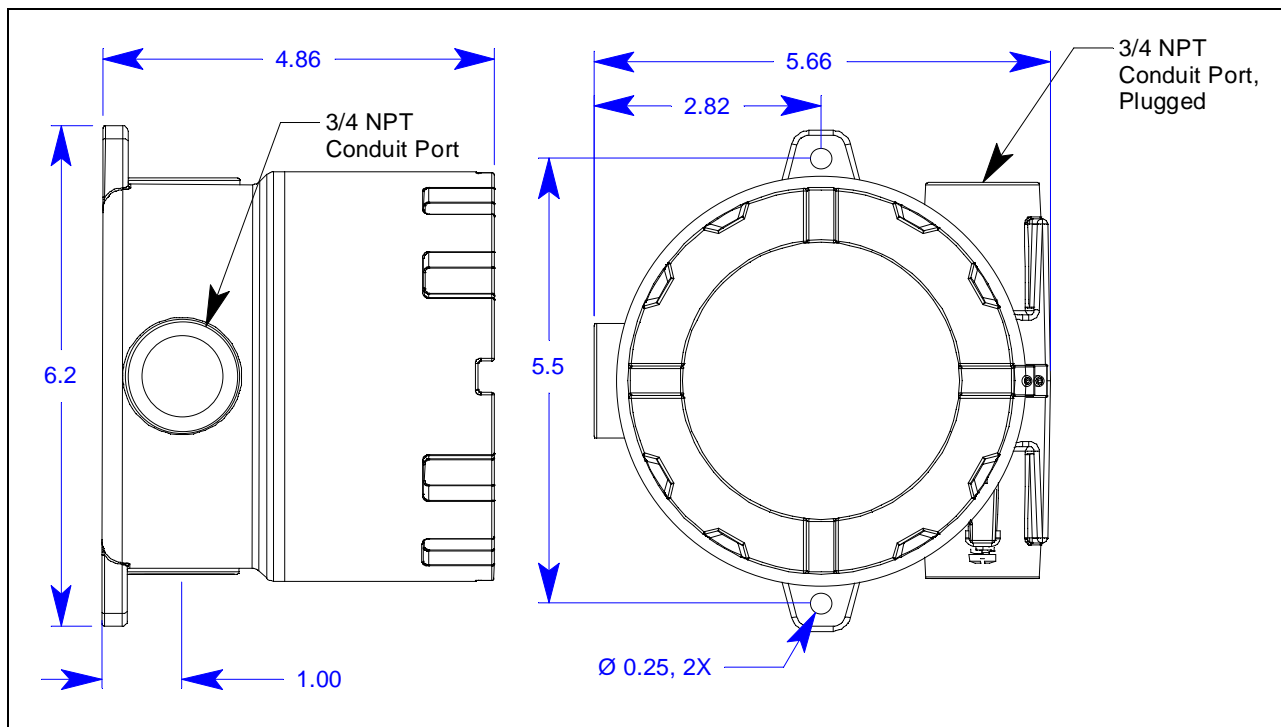
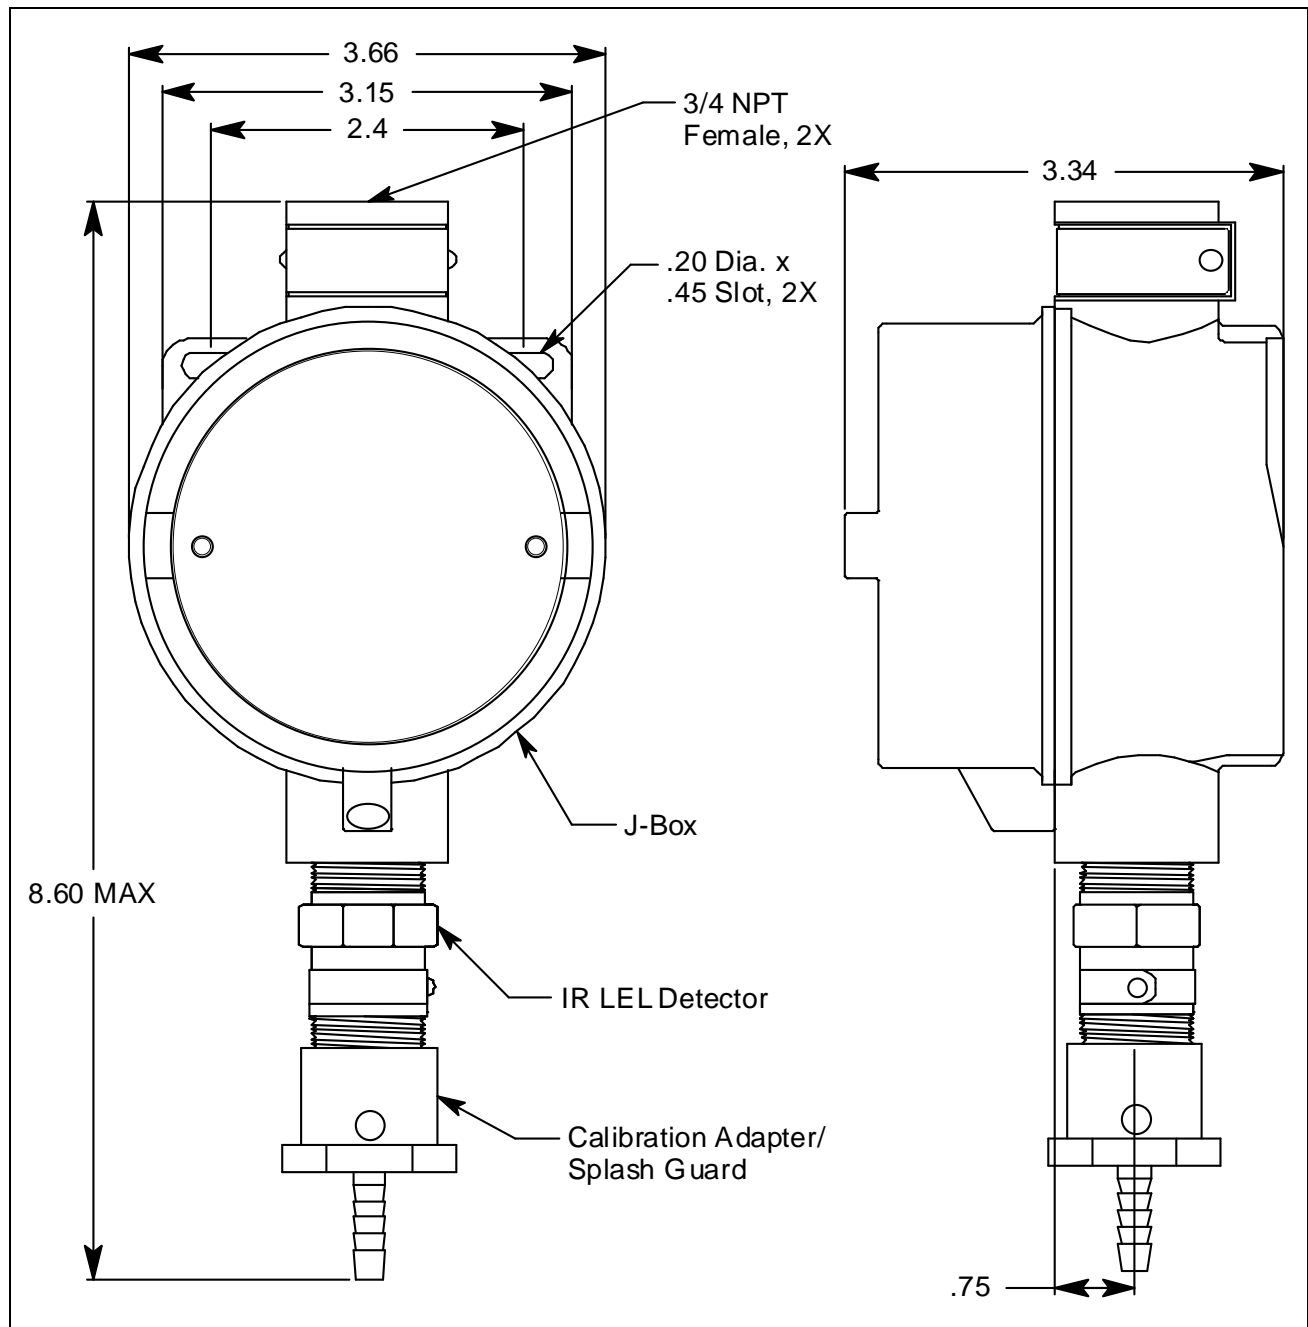

Figure 5: Outline & Mounting Dimensions, M2A Junction Box
Figure 6: Outline & Mounting Dimensions, Detector Junction Box
2. Use #10 screws through the M2A junction box's two mounting holes to secure the junction box to a vertical surface. Figure 5 shows the outline and mounting dimensions the M2A junction box. Figure 6 shows the outline and mounting dimensions for the detector junction box. Mount the detector junction box with the detector facing down as shown in Figure 6.